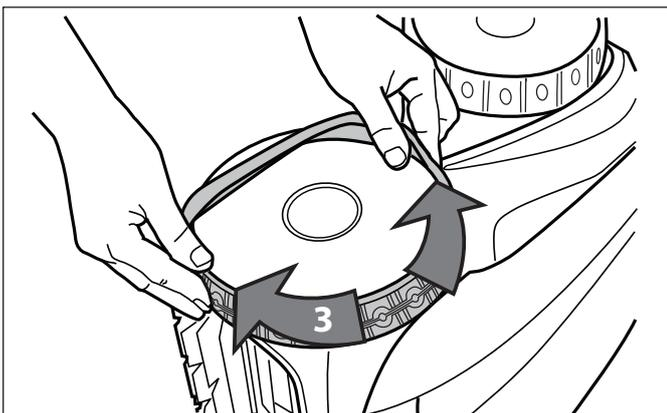

Figure 39. Work the Tyre On Around the Wheel
5. Work the tyre onto the wheel and verify the rib of the tyre is positioned properly within the groove of the wheel (Figure 39).